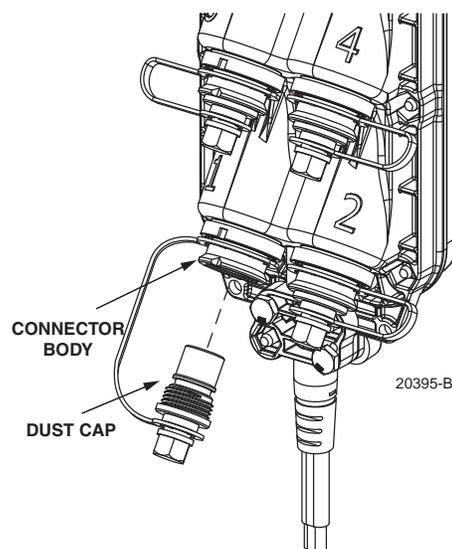

Figure 14. Optical Port Adapter Components
The basic components of the MST optical port hardened adapter are shown in Figure 14. The dust cap threads into the adapter housing. An O-ring on the dust cap provides a tight seal when the dust cap is in place. The 216B key tool is required to remove the dust cap.
3. Use the 216B key tool (accessory) to unscrew the dust cap (see Figure 14) from the MST optical port.
4. Thread the optical port dust cap into the optical port and tighten using the 216B key tool (see Figure 14).